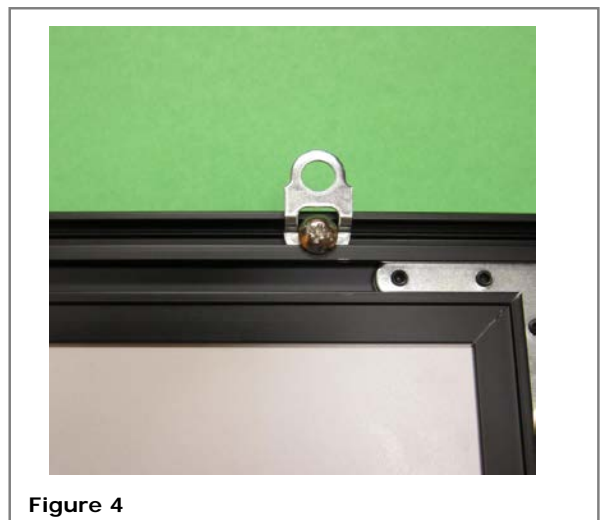

Figure 4
4. Slide each mounting clip to the desired location and then insert and tighten the locking screws. **See Figure 4 & 5.**